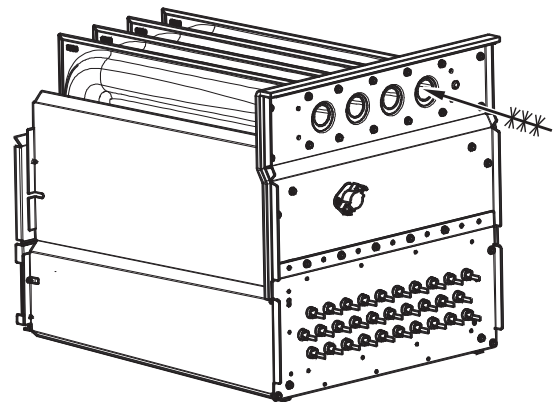

Fig. 68 – Cleaning Heat Exchanger Cell
7. Clean heat exchanger openings with a vacuum and a soft brush. See Fig. 68.